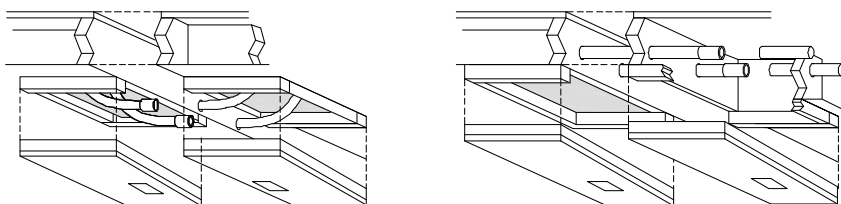

Figure 62. Water line crossover with access panels
3. **Pull lines.** Pull water lines through holes in rim joist. If holes are not provided, drill round holes in the center of the rim joist, with a maximum diameter of one third the rim joist depth (**Figure 62**).